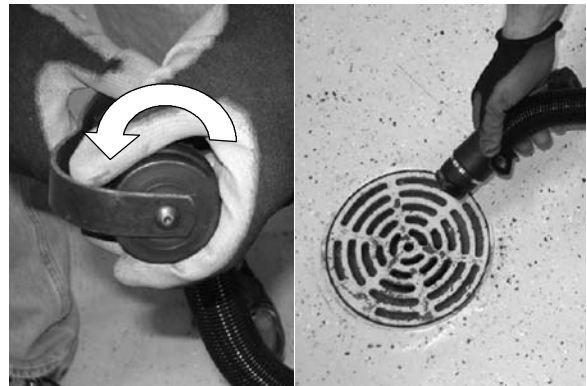

FIG. 25
1. While holding the drain hose upward, remove the cap and lower hose to drain (Figure 25).